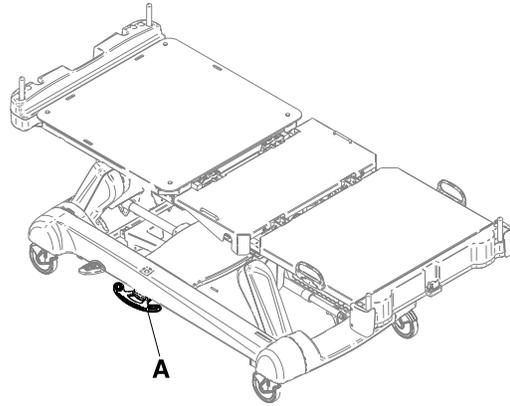

Figure 5: Flipped manual brake pedal
1. Flip down the brake pedal (A) (Figure 5 on page 17).